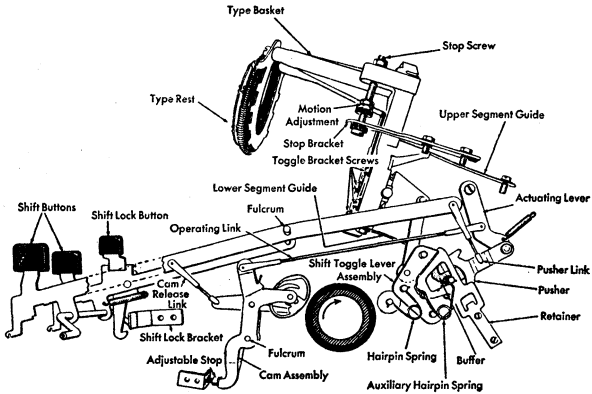

Figure 26. Shift Mechanism
1. EVEN TOP AND BOTTOM. Turn the shift stop screws until even printing on the top and bottom for the majority of the lower case characters is obtained. The heads of these screws should rest with equal pressure on the left and right stop washer (Figure 26).
2. MOTION is adjusted by moving the lock nuts on each stop screw so that the upper case characters print on the same line as the lower case. The lock nuts should rest on the upper stop washers with equal pressure (Figure 26).
4. CAM RELEASE LINK. Adjust this so that the cam will be released when the key lever is depressed $1/2$ to $3/4$ of its total travel (Figure 26).
5. EQUAL PIN CLEARANCE is obtained by turning the toggle bracket screws (Figure 26). Loosening the two upper screws and tightening the two lower screws will increase the clearance between the upper pin and the pusher, and vice versa. Be sure to make the same adjustments on each set of toggle bracket screws, to prevent any binding of the